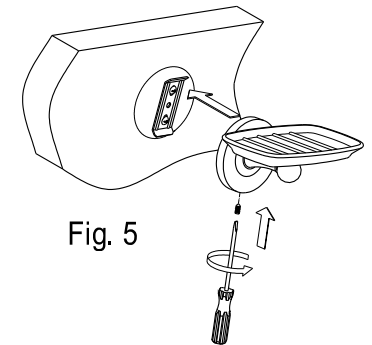

Fig. 5
- Step 6. Place the base, with the small hole of cover plate upwards, over the mounting plate by tightening slotted set screw with flathead screwdriver until the base is tightly fixed. (Fig.5)